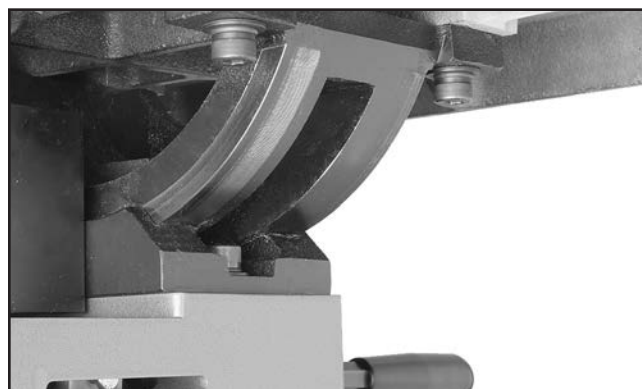

Figure 74. Trunnion lubrication location.
3. Apply a very thin coat of light, all-purpose grease to the trunnions (see **Figure 74**).